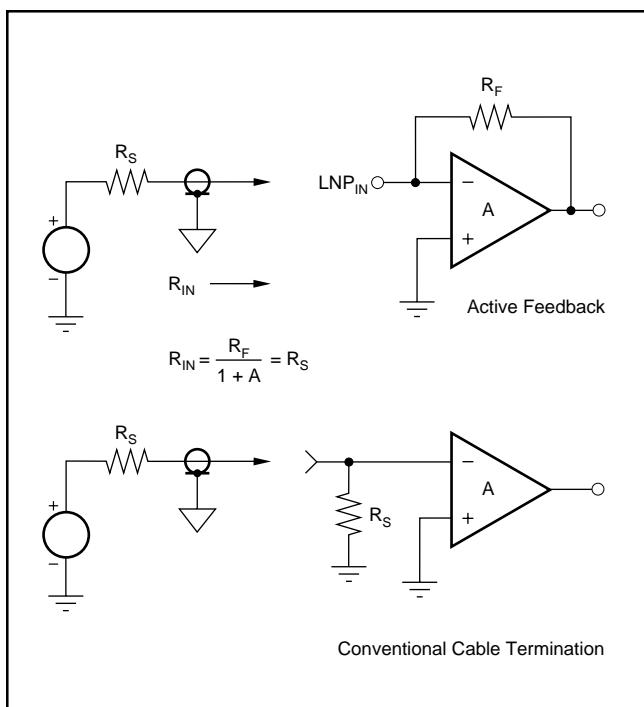

FIGURE 5. Configurations for Active Feedback and Conventional Cable Termination.
See Figure 5 for an amplifier using active feedback. This diagram appears very similar to a traditional inverting amplifier. However, the analysis is somewhat different because the gain A in this case is not a very large open-loop op amp gain; rather it is the relatively low and controlled gain of the LNP itself. Thus, the impedance at the inverting amplifier terminal will be reduced by a finite amount, as given in the familiar relationship of Equation (3):